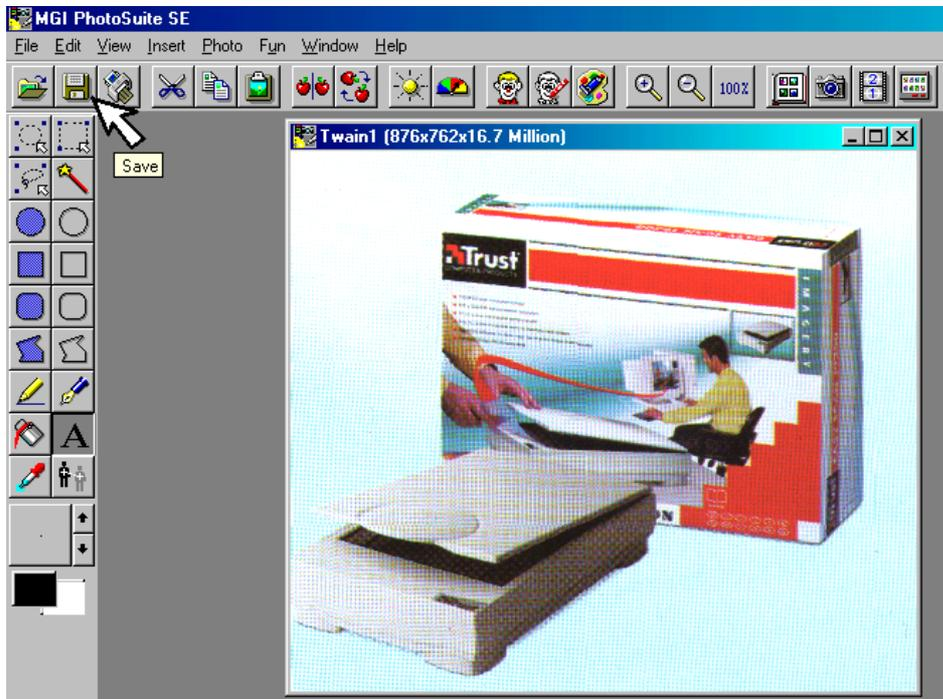

Figure 28: Saving an edited photograph
- Click on the 'Save' icon (see figure 28) to save the scanned image.